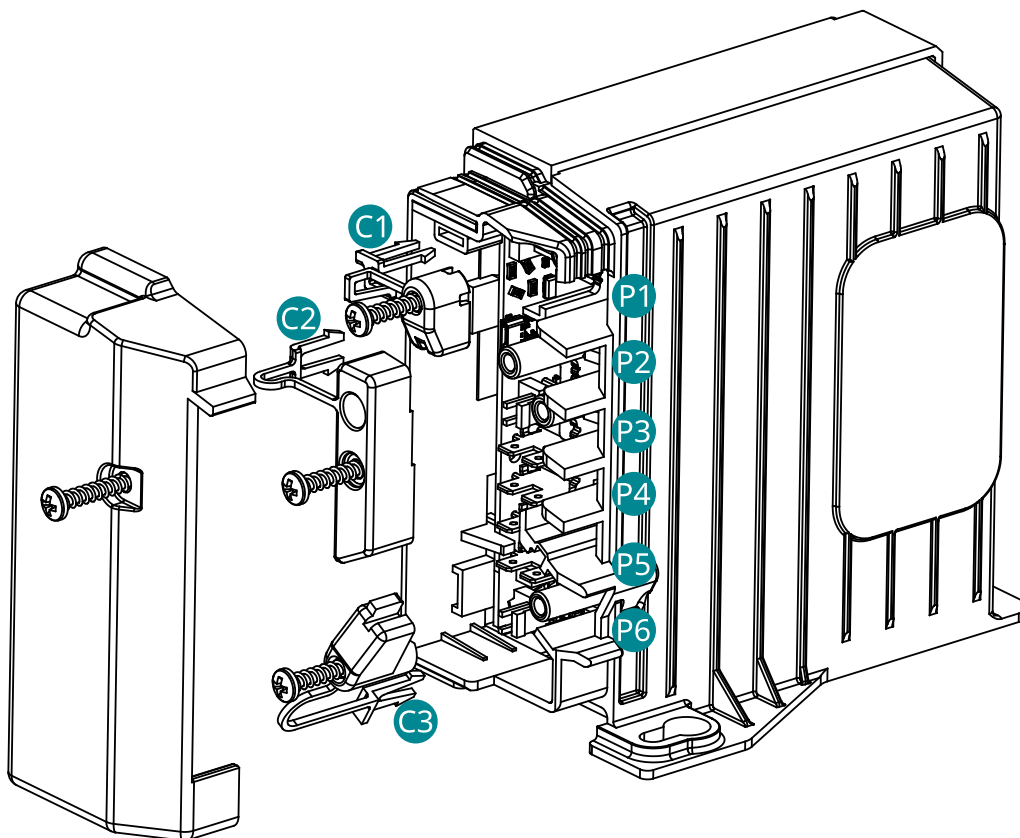

Figure 3-1: Cables arrangement – stand alone version
2. Carefully position the Safety earth cable within the cable clamp area as shown in Figure 3-1.
3. Pass the remaining cables through the cable clamp guides as shown in Figure 3-1.
4. Assemble and fasten the cable clamp to hold the cables firmly in place as shown in Figure 3-1.
5. Tighten the cable clamp screw shown in Figure 3-1 to a torque of 0.8 – 1.2 Nm.